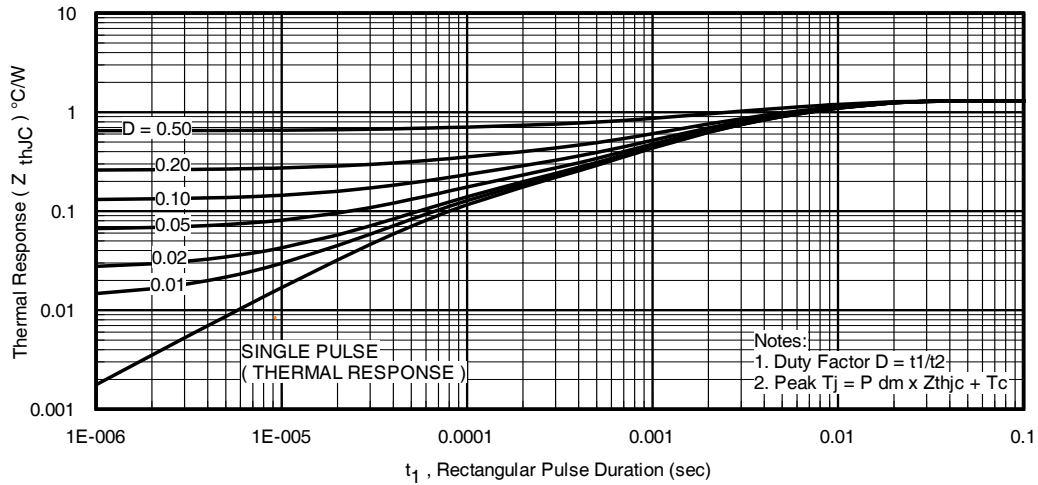

Fig 14. Maximum Effective Transient Thermal Impedance, Junction-to-Case
7. ΔT = Allowable rise in junction temperature, not to exceed T_{jmax} (assumed as $25^{\circ}C$ in Figure 14, 15).